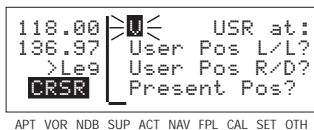

Figure 4-75
2. Use the right inner knob to select the first character of the identifier (figure 4-75). Remember that when the cursor is on, the right inner knob changes the character and the right outer knob moves the cursor around.